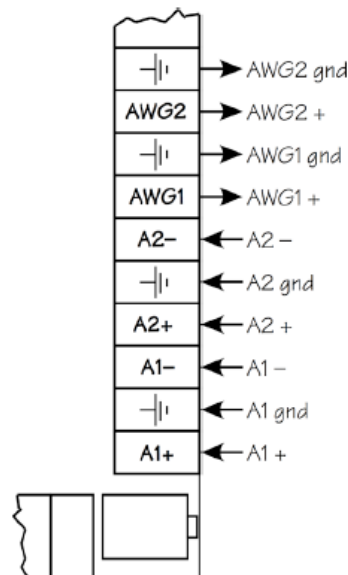

Fig. 2—Red2 terminals
Figure 2 is the arrangement of the connections on the IOBoard. Calibration requires measuring and adjusting voltages at some of the terminals and then using these output ports to automatically calibrate the input ports.
3. Connect your digital multimeter to the AWG1 terminal (yellow) and its ground (white). See Fig. 2.
10. On the "AWG Output" line, adjust "Offset (SE)" to get the DMM to read the value just calculated.
2. Connect AWG1 (yellow) to A1+ (red) and AWG1's ground (white) to A1- (green). (See Fig. 2.)